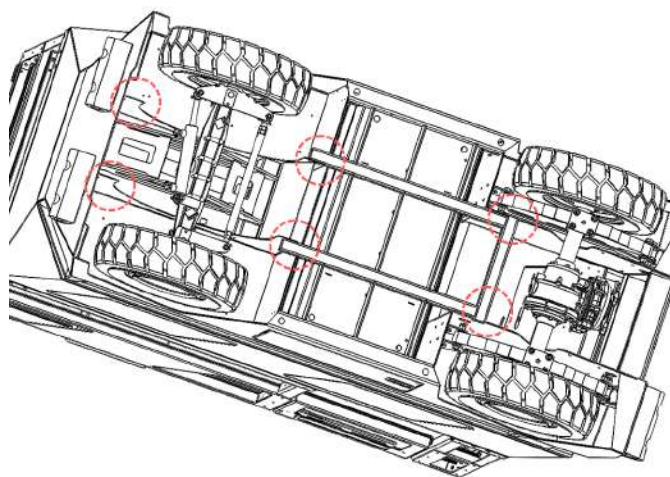

Figure 34. Weld Zones.
- Weld zones (see Figure 34: not all welds are shown).